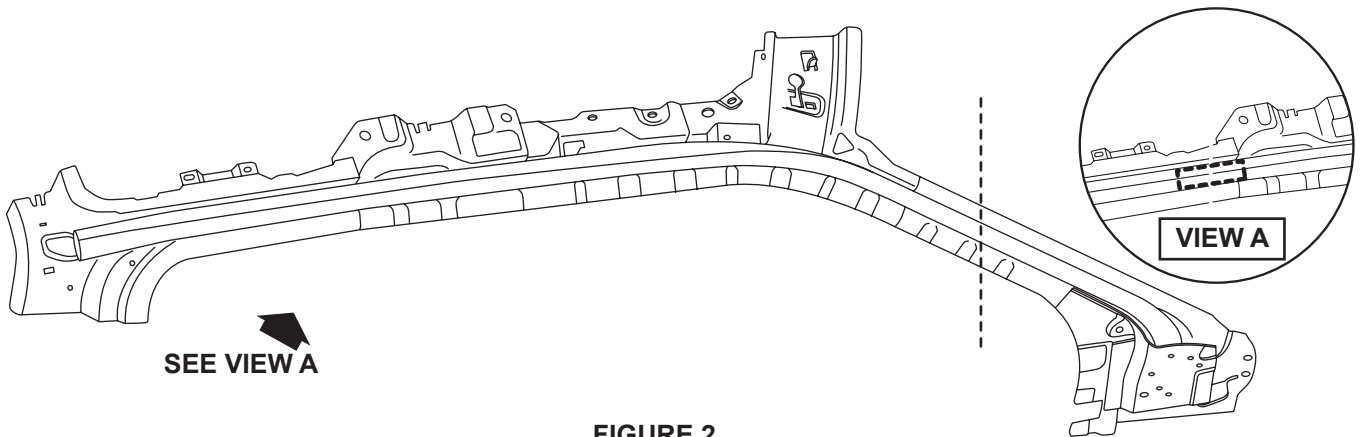

FIGURE 2
- (Refer to Figure 2) for location for adhesive material.
NOTE: The location of SPR and adhesive shown below are based on the original production drawings and should only be used as a guideline. (Refer to Figure 2).